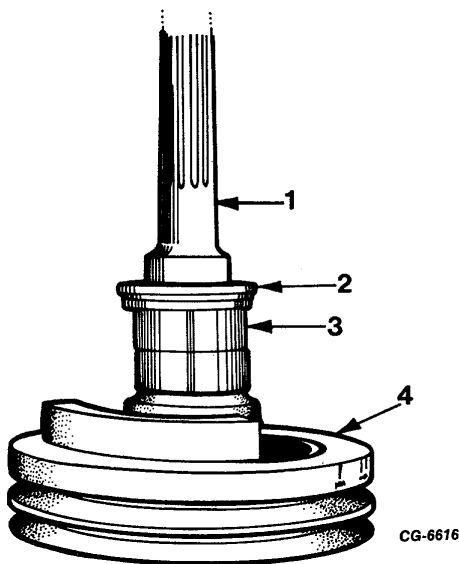

Fig. 154 Installing Front Oil Seal Wear Sleeve
- b. Heat wear sleeve in boiling water and position on pulley hub. Using handle and 7.3 cm (2-7/8 inch) diameter adapter from SE-1905 tool set, press wear sleeve onto pulley hub until flush with end of hub (Figure 154).